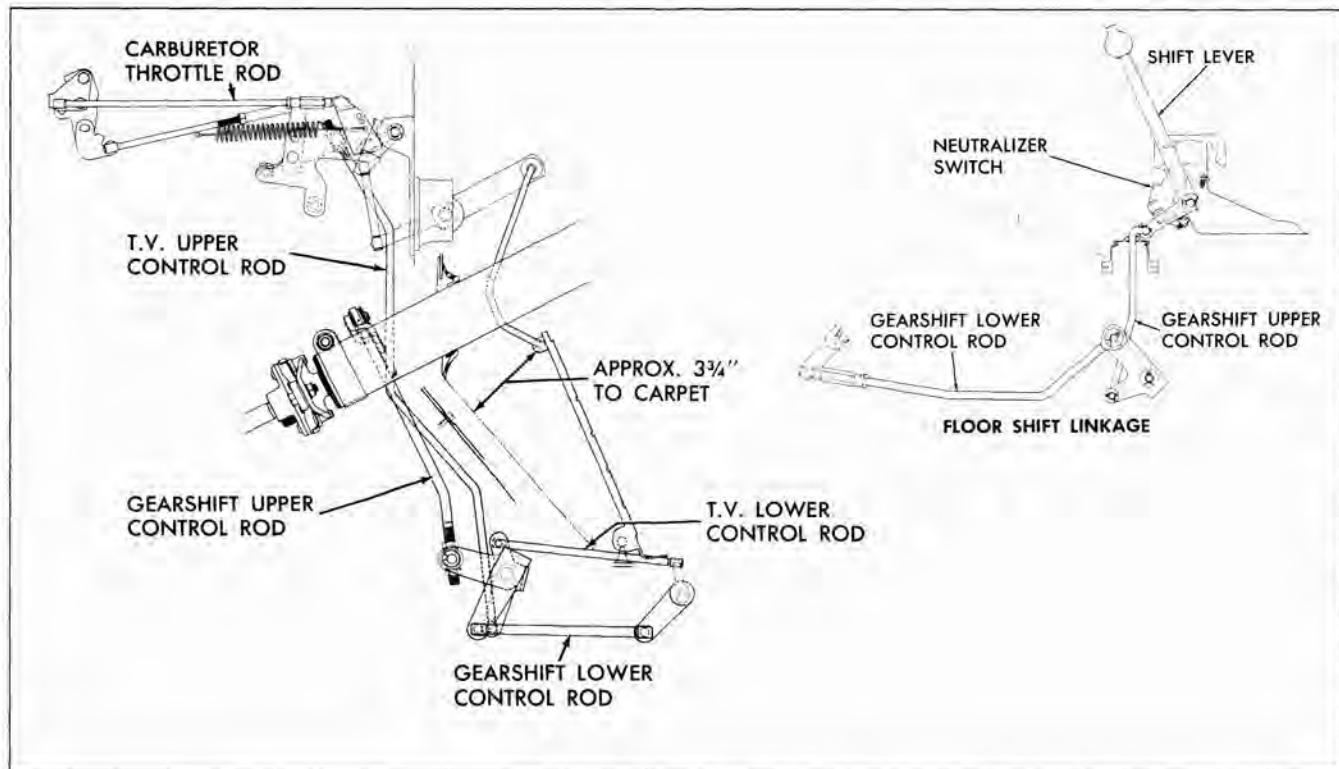

Fig. 42 Accelerator and Gearshift Linkage
8. Adjust carburetor throttle rod to obtain $4.55''$ clearance from underside of attaching boss on pedal to body toe pan as shown in Fig. 42. (App. $3\frac{3}{4}''$ to carpet). Tighten lock nut on carburetor throttle rod securely.
1. Put upper shift control lever and transmission lever in park P position and, with the gearshift upper control rod trunnion nuts (Fig. 42) backed clear of the trunnion, pull the control rod down toward the transmission as far as possible. While holding rod in this position, run the trunnion upper nut down to just contact the trunnion. Run lower nut up to contact trunnion and lock nuts securely.